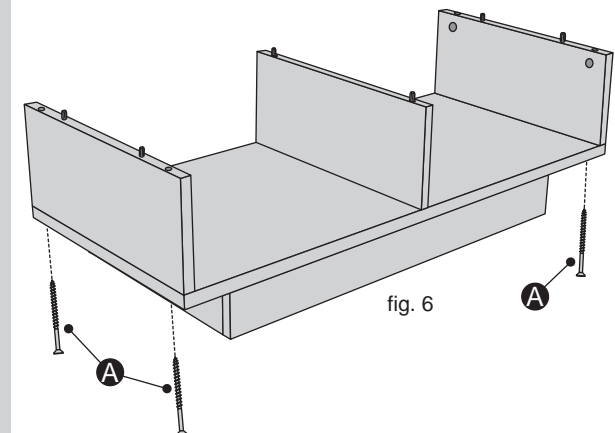

fig. 6
3. Use Screws **A** to fix the Side Panels **D** onto the unit. See fig. 6.